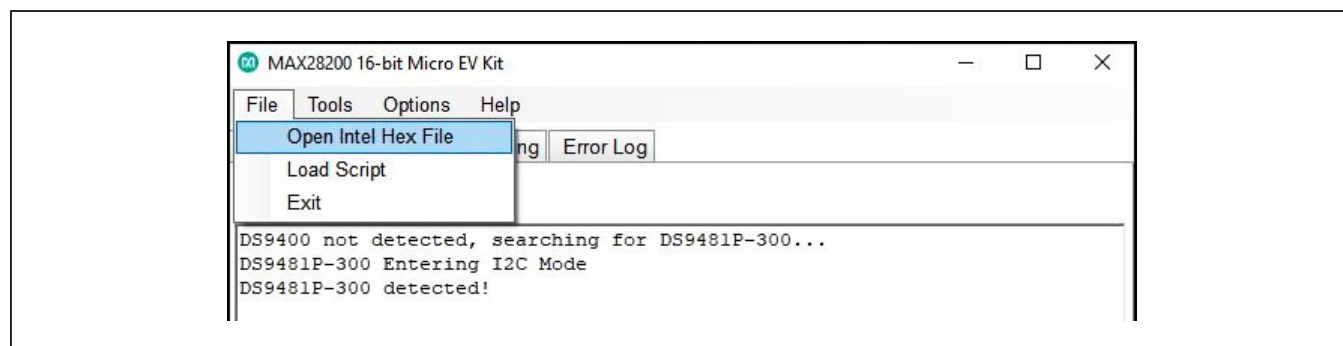

Figure 15. Programming Device with Selected Script
- 5) Go to the **Boot Loader** tab, and under the **File** menu, select **Open Intel Hex File**. Choose the .hex file that was created from the original assembly file (Figure 15).